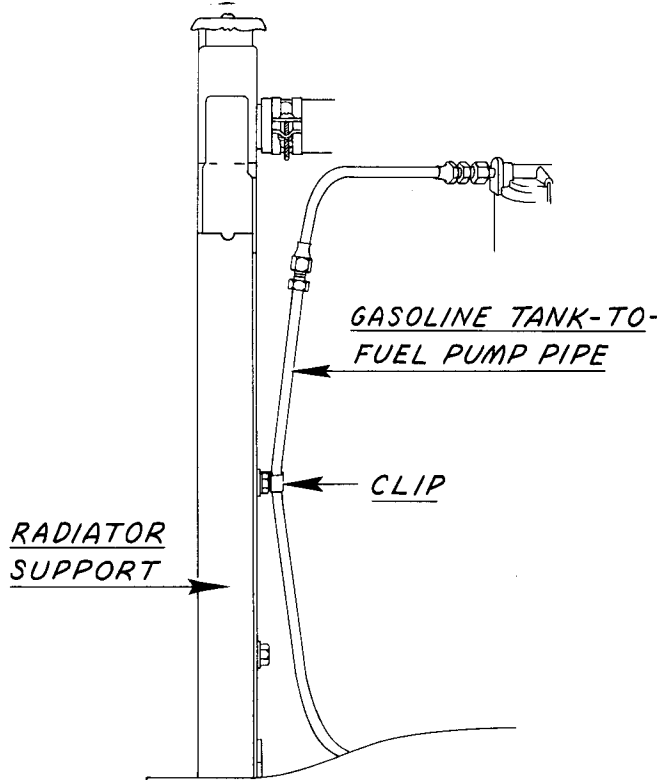

FIG. 1
2. **GASOLINE TANK-TO-FUEL PUMP PIPE** It is important that the gasoline pipe running from under the frame up along the radiator edge to the fuel pump flexible coupling be held in the clip provided on the radiator core support (see Fig. 1) and also be held away from metal-to-metal contact except within the clip. If this pipe is not held by the clip, it may move over sufficiently to pick up added heat from the radiator core air and cause fuel vaporization in the pipe at that point; similarly, if this pipe rests against the radiator, vaporization from heat transference may result. Make corrections as indicated by your inspection.